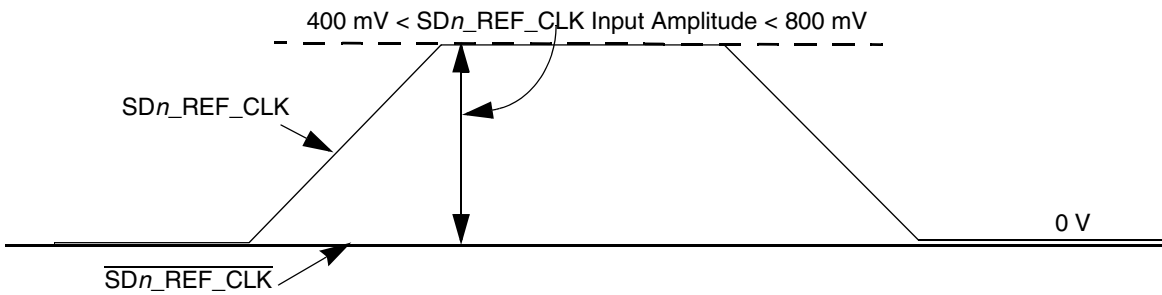

Figure 55. Single-Ended Reference Clock Input DC Requirements
- The SD_n_REF_CLK input average voltage must be between 200 mV and 400 mV. Figure 55 shows the SerDes reference clock input requirement for single-ended signaling mode.